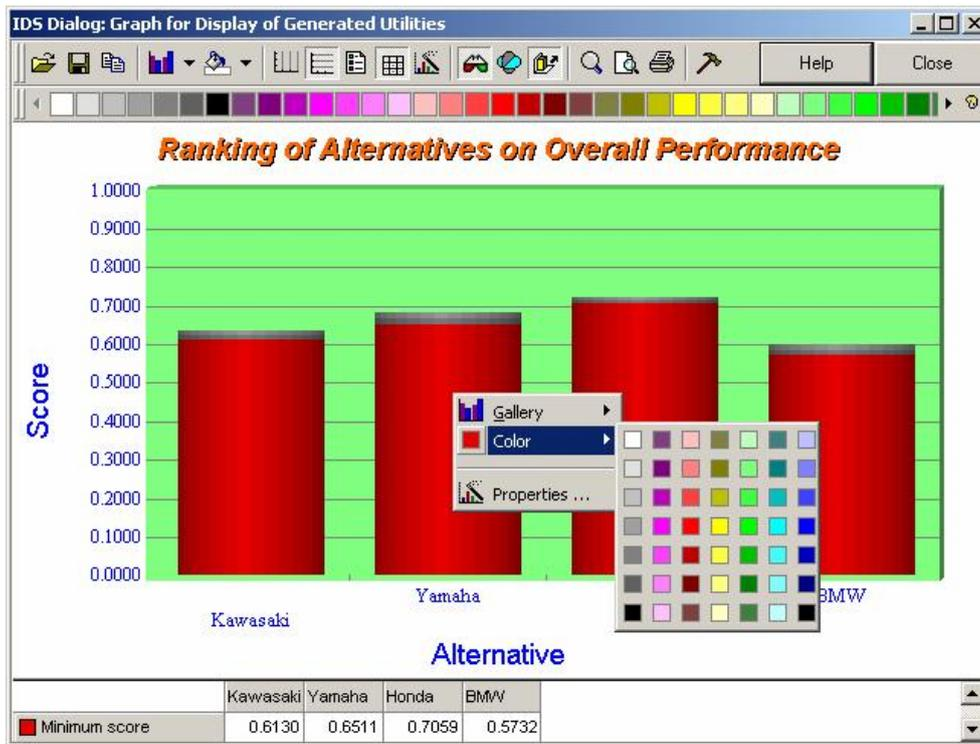
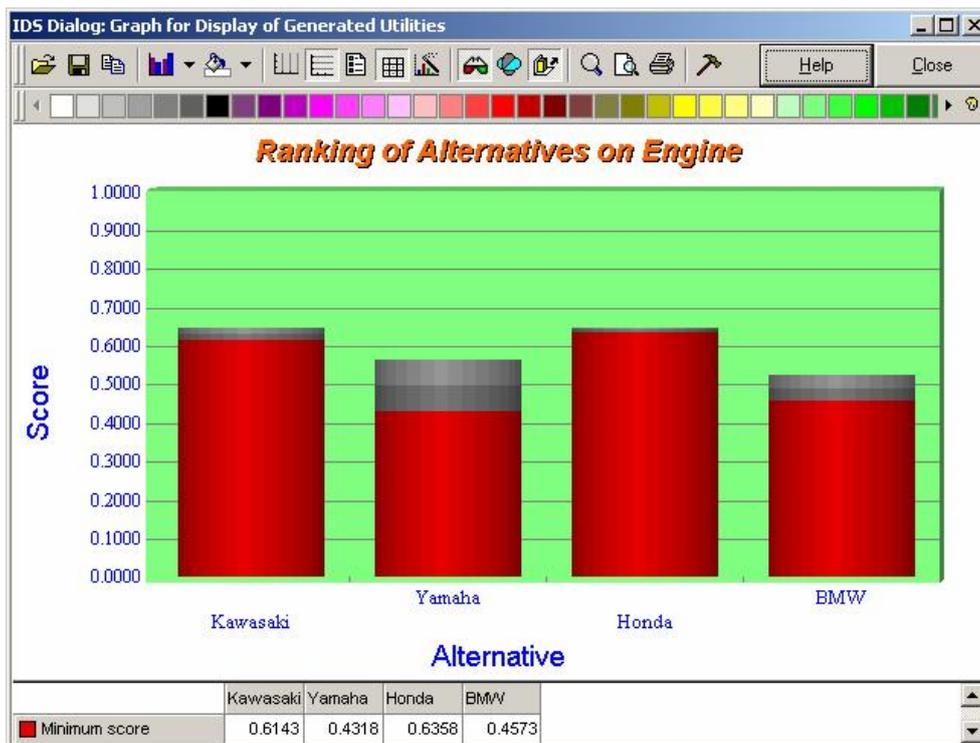

Figure 5.1 Performance Scores on Overall Performance
Figure 5.2 Performance Scores on Engine
You may view the assessment information for any selected alternatives on any selected attributes in the attribute hierarchy at any time – even when you have not gathered information for some of the bottom level attributes. In this case the missing information will be shown in the assessment as uncertainty in terms of performance score range (**Figure 5.2**).
3. Click the  button in the toolbar at the top of the window. The graph you see is similar to the one shown in **Figure 5.1** (for the *Overall Performance* attribute) or **Figure 5.2** (for the *Engine* attribute).
The results in **Figure 5.1** or **Figure 5.2** display the performance scores for all the alternatives on the selected attributes. Because there are some missing data in the assessment information, the graph provides a lower and upper bound of the performance scores, so that you know that the scores will be in the range marked in grey whatever the missing data turn out to be.
(Note that if you wish to change any colour in the figure, you can right click the colour and then select *Color* to pick up a desired colour from the provided colour pallet, as shown in **Figure 5.1**)
When there is missing information in alternative assessments, the score ranges generated by the ER approach, such as the ones shown in **Figure 5.1** and **Figure 5.2**, are the outcomes of a kind of global sensitivity analysis carried out on the possible ranges of missing information.